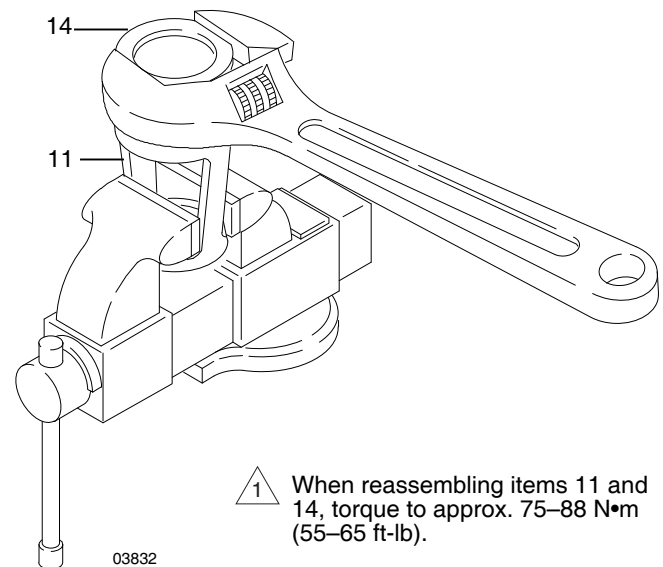

FIG. 9
13. **If the priming piston rod (18) or piston (12) are damaged:** Place the piston flats in a vise. Unscrew the priming piston rod (18).
14. Place the piston guide (11) in a vise, as shown in FIG. 9. Use an adjustable wrench to unscrew the piston seat (14) from the guide. Remove the seal (13).
3. Place the flats of the valve body (16) in a vise. Screw the packing nut into the valve body handtight. Set the intake housing assembly aside.
4. Lubricate the piston seal (13*) and install it on the piston seat (14). Screw the piston guide (11) onto the seat (14).
5. Place the guide in a vise as shown in FIG. 9, page 17, and torque the seat to 75–88 N•m (55–65 ft-lb).
6. **If the priming piston rod (18) was removed from the piston (12):**